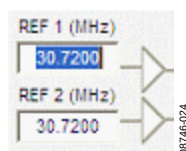
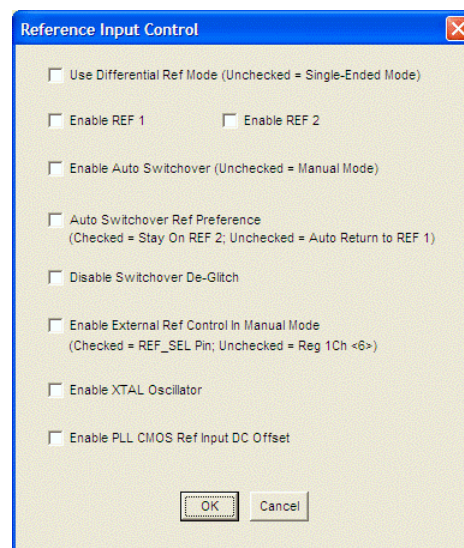

Figure 4. Buffer Symbol
Figure 5. Reference Input Control Window
3. Click the triangular buffer symbol immediately to the right of the input reference frequency text boxes (see Figure 4) to open the **Reference Input Control** window shown in Figure 5. Turn the REF1 reference input buffer on by selecting the **Enable REF 1** check box, and then click **OK**.